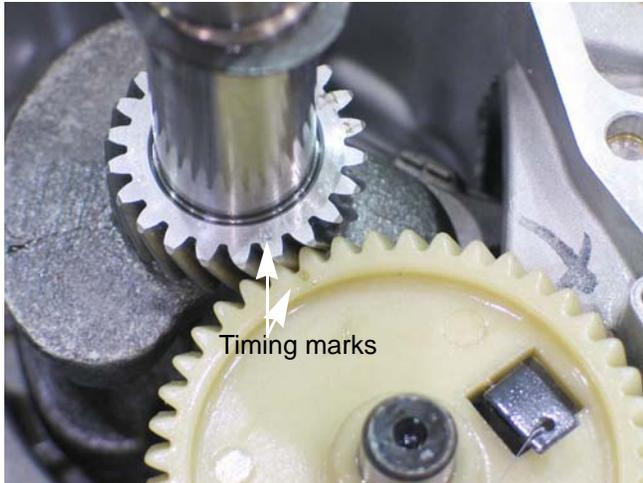

Figure 10.28
- 6c. Insert the cam shaft while aligning the timing marks. See Figure 10.28.